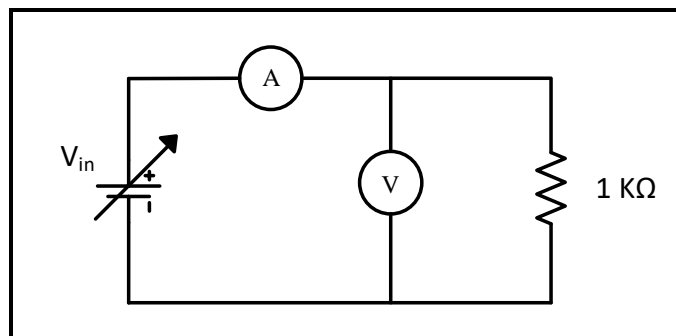

Figure 8.4
1. Connect the circuit of Figure 8.4